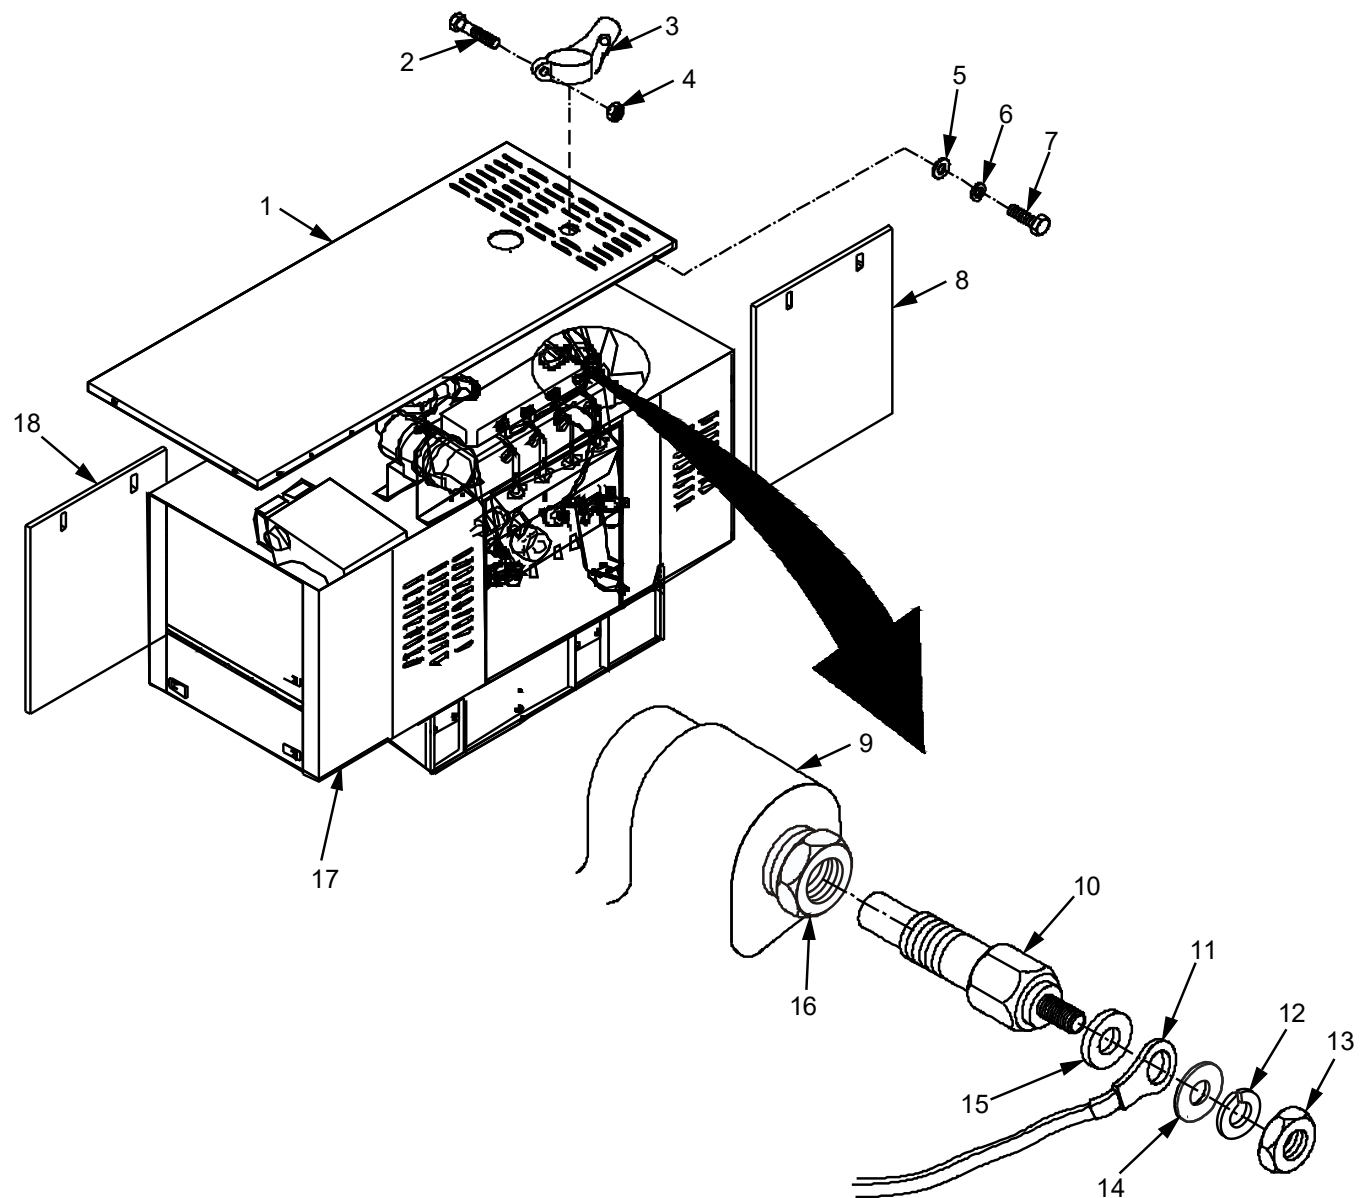
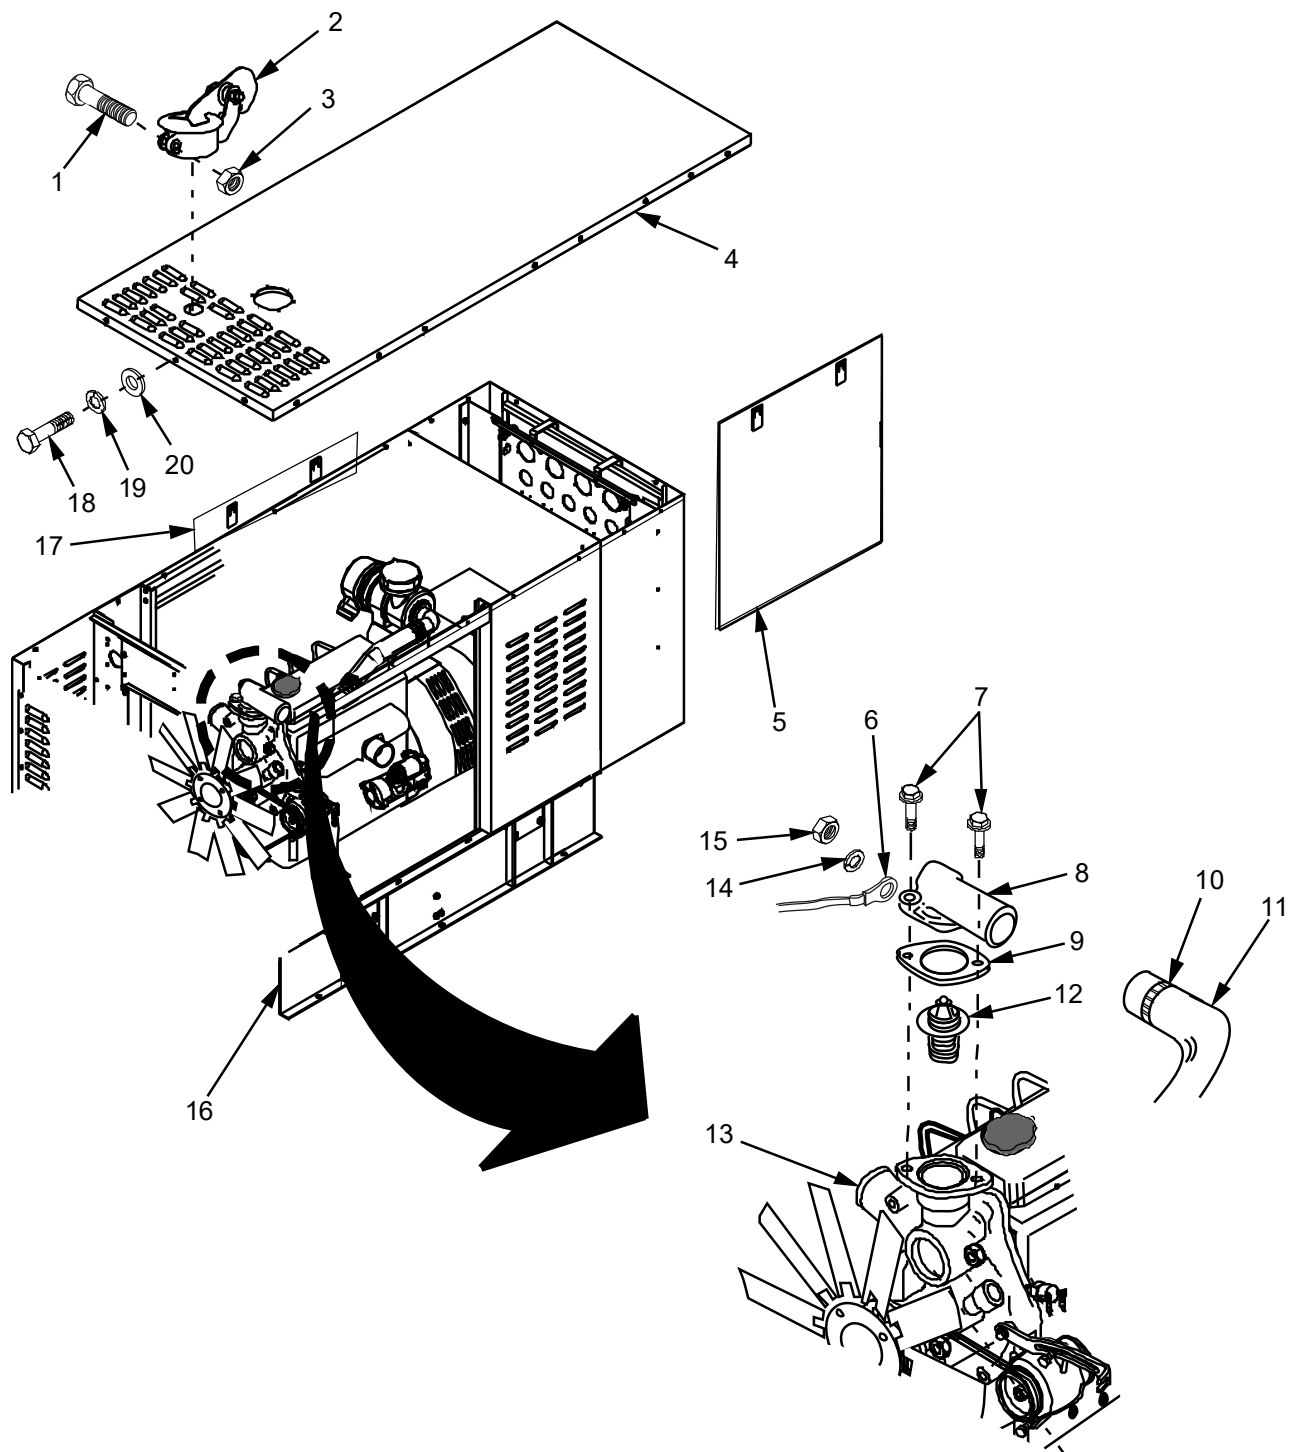

Figure 1. Coolant Temperature Sensor - Replace.
Figure 2. Thermostat - Replace.
1. Apply Tape, Antisiezing to threads of coolant temperature sensor (Figure 1, Item 10).
When performing the following step, use a second wrench to keep mounting nut (Figure 1, Item 16) from turning.
2. Install coolant temperature sensor (Figure 1, Item 10) onto mounting nut (Figure 1, Item 16) on thermostat housing (Figure 1, Item 9) and tighten.
3. Using torque wrench, tighten coolant temperature sensor (Figure 1, Item 10) on thermostat housing (Figure 1, Item 9) to 9~13 ft./lb (12~18 n-m/1.2~1.8 kgf-m).
Prior to performing the following step, inspect wire lug (Figure 1, Item 11) and terminal for connectivity. Ensure that wire lug has not become brittle and that there are no nicks, cuts or other damage to wire lug. If damage is found, refer to WP 0081 for wiring repairs.
4. Install Insulation washer (Figure 1, Item 15) and wire lug (Figure 1, Item 11) onto coolant temperature sensor (Figure 1, Item 10) and secure with nut (Figure 1, Item 13), lock washer (Figure 1, Item 12), and flat washer (Figure 1, Item 14).
6. Install top access panel (Figure 1, Item 1) onto Genset (Figure 1, Item 17) and secure using 20 bolts (Figure 1, Item 7), new lock washers (Figure 1, Item 6) and flat washers (Figure 1, Item 5).
7. Install exhaust pipe cap (Figure 1, Item 3) and tighten nut (Figure 1, Item 4) and bolt (Figure 1, Item 2) that secure exhaust pipe cap (Figure 1, Item 3).
9. Replace front and rear access panels (Figure 1, Items 8 and 18) on Genset (Figure 1, Item 17).
1. Verify that Genset (Figure 2, Item 16) has been shut down, engine is cool, and that BATTERY SWITCH is set to OFF WP 0005, Genset Shut Down Procedure.
3. Remove the front and rear access panels (Figure 2, Items 5 and 17) on Genset (Figure 1, Item 16) and set aside.
4. Disconnect battery ground cable (black) (WP 0056, Figure 2, Item 26) from battery.
5. Loosen but do not remove nut (Figure 2, Item 3) and bolt (Figure 2, Item 1) that secures exhaust pipe cap. Remove exhaust pipe cap (Figure 2, Item 2) and set aside.
6. Remove and retain 20 bolts (Figure 2, Item 18), lock washers (Figure 2, Item 19), and flat washers (Figure 2, Item 20) that secure top access panel (Figure 2, Item 4) to Genset (Figure 2, Item 16). Remove top access panel (Figure 2, Item 4) and set aside. Discard lock washers (Figure 2, Item 19).
7. Loosen clamp (Figure 2, Item 10) and remove coolant hose (Figure 1, Item 11) from thermostat housing (Figure 2, Item 8).
8. Remove and retain nut (Figure 2, Item 15) and washer (Figure 2, Item 14) that secures wire lug (Figure 2, Item 6) to thermostat housing (Figure 2, Item 8).
9. Remove and retain two bolts (Figure 2, Item 7) that secure thermostat housing (Figure 2, Item 8) to water pump (Figure 2, Item 13).
10. Remove and retain thermostat housing (Figure 2, Item 8) from water pump housing (Figure 2, Item 13).
11. Tap on thermostat (Figure 2, Item 12) to break seal and remove thermostat (Figure 2, Item 12).
12. Remove gasket (Figure 2, Item 9) from thermostat (Figure 2, Item 12) and water pump housing (Figure 2, Item 13).
2. Place thin layer of Silicone Sealant, RTV to top and bottom of new gasket (Figure 2, Item 9) to hold in place during assembly.
3. Install new gasket (Figure 2, Item 9) onto water pump housing (Figure 2, Item 13).
4. Install thermostat (Figure 2, Item 12) and thermostat housing (Figure 2, Item 8) onto water pump housing (Figure 2, Item 13).
5. Secure thermostat housing (Figure 2, Item 8) to water pump housing (Figure 2, Item 13) using two bolts (Figure 2, Item 7).
6. Using torque wrench, tighten two bolts (Figure 2, Item 7) on thermostat housing (Figure 2, Item 8) to 14~21 ft./lb (19~28 n-m/1.9~2.9 kgf-m).
7. Install coolant hose (Figure 2, Item 11) onto thermostat housing (Figure 2, Item 8) and tighten clamp (Figure 2, Item 10).
8. Connect wire lug (Figure 2, Item 6) to thermostat housing (Figure 2, Item 8) secure with nut (Figure 2, Item 15) and washer (Figure 2, Item 14).
9. Install top access panel (Figure 2, Item 4) onto Genset (Figure 1, Item 16) and secure using 20 bolts (Figure 2, Item 18), new lock washers (Figure 2, Item 19) and flat washers (Figure 2, Item 20).
10. Install exhaust pipe cap (Figure 2, Item 2) and tighten nut (Figure 2, Item 3) and bolt (Figure 2, Item 1) that secure exhaust pipe cap (Figure 2, Item 2).
11. Connect battery ground cable (black) (WP 0056, Figure 2, Item 26) to battery.